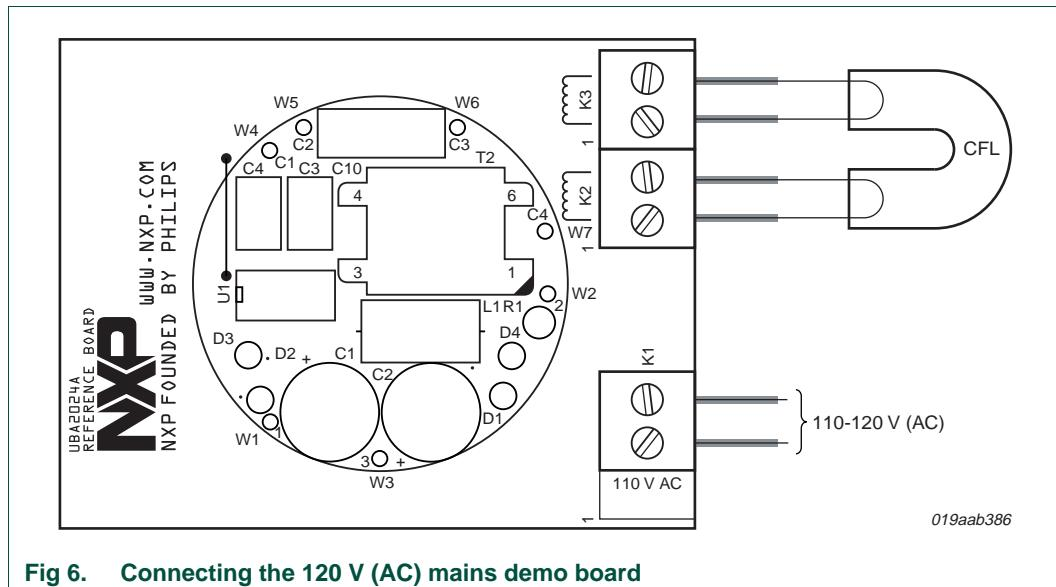

Fig 6. Connecting the 120 V (AC) mains demo board
The connection to the lamp is very straight forward as the Figure 5 and Figure 6 show. The board has been designed to accommodate layouts for 120 V (AC) or 230 V (AC) line voltages. An ordered board is preset for a certain line voltage. The labeling on the board for the mains voltage connector has been designed in such a way that the correct line voltage label becomes visible when the two way screw terminal block for the mains voltage is soldered to the proper position.